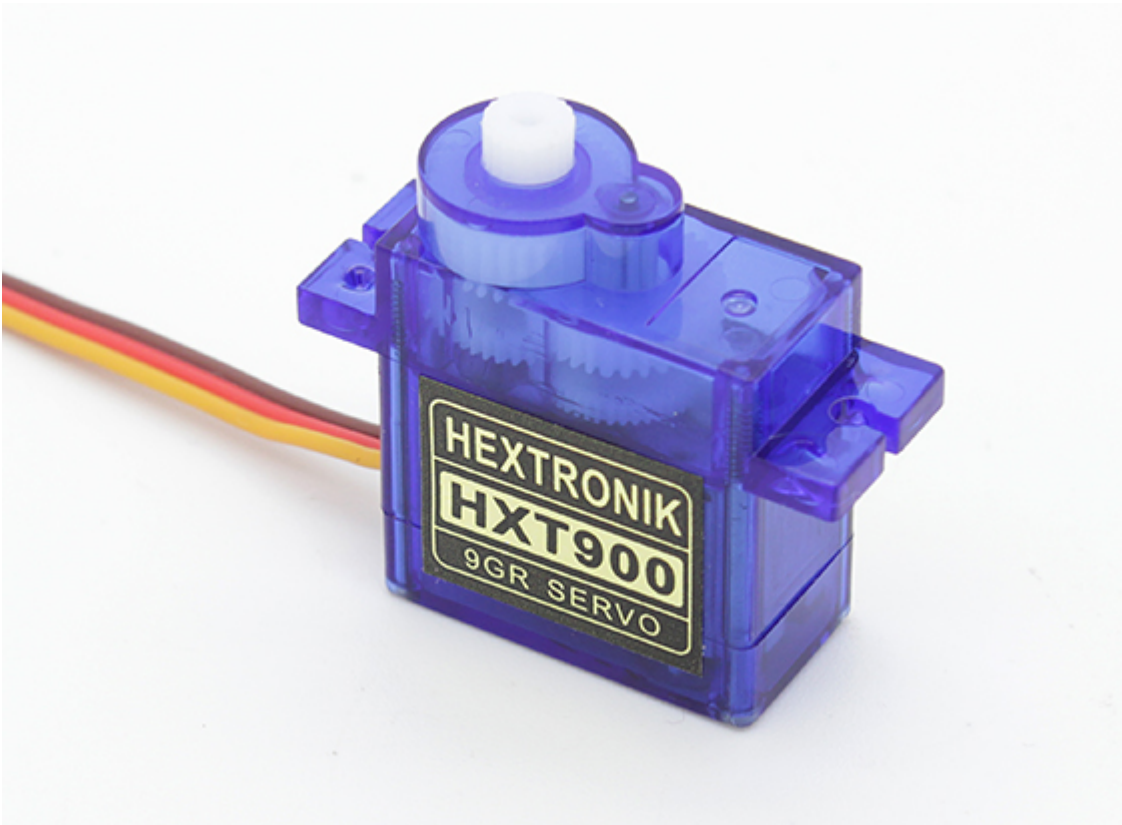

Fig 2.1
- This device (robot muscle) is what is known as a servo. There are other ways of converting electrical energy into kinetic energy but this is the most common one. It looks like this, see figure 2.1